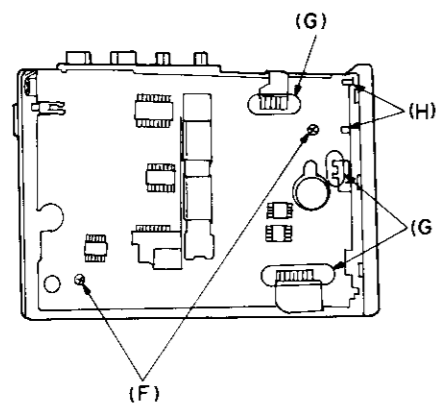

Fig. 3
1. Remove the screw (F) (1.4 × 2.5)mm × 2. (Fig. 3)
2. Remove the solder (G) from flexible PC board. (Fig. 3)
3. Remove the solder point (H) × 2. (Fig. 3)